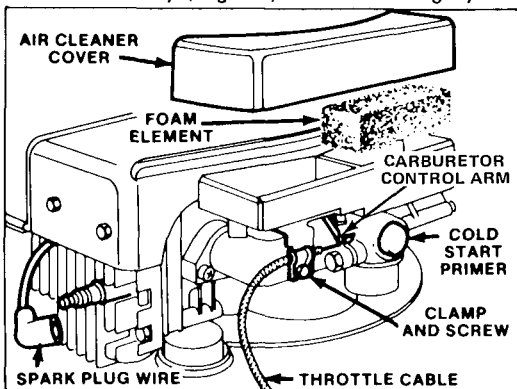

Figure 13
2. Push wire onto spark plug (Fig. 13).
3. COLD START — Before starting engine when temperature is below 50°F (10°C), push cold start primer 5 times (Fig. 13), pausing 2 seconds between each push.
1. Stop engine and pull wire off spark plug (Fig. 13).
2. Lift off air cleaner cover and clean cover thoroughly (Fig. 13).
3. If top of foam element is dirty, remove it from air cleaner body (Fig. 13). Clean thoroughly.
2. Clean around spark plug and remove plug from cylinder head (Fig. 13).
3. Loosen cable clamp screw until throttle cable slides (Fig. 13). Move carburetor control arm as far to the left as possible. Pull throttle cable slightly to remove any slack and tighten cable clamp screw to lock adjustment in place.